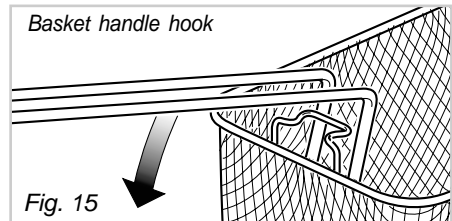
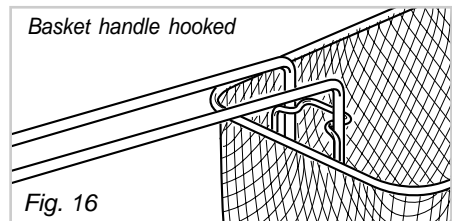

Fig. 15
Fig. 16
- Move the basket handle outwards (fig. 15) and hook it (fig. 16).